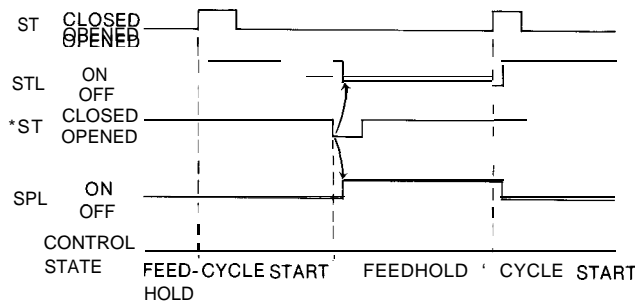

Fig. 20.4 Timing Chart for Input of Cycle Start (ST), Stop (* SP), and Output of Cycle Start (STL), Feedhold (SPL)
- (2) When the following state is entered after cycle start, the control completes operation control, and turns off the STL output.
- (3) When the feedhold input contact “* SP” is opened during automatic operation, the automatically controlled motions, etc. are interrupted, and at the same time the cycle start output STL is turned off and the feedhold output SPL is turned on. While a block of thread cutting instruction is being executed, the feedhold input is disregarded.
- (4) When the feedhold input contact * SP is closed, and cycle start input contact ST is closed and opened, temporary stop SPL is turned off, and automatic operation is restarted. The cycle start output STL is turned on also.
Timing chart for input of cycle start (ST), feedhold (* SP), and cycle start (STL) and temporary stop (SPL) is shown in Fig. 20.4.